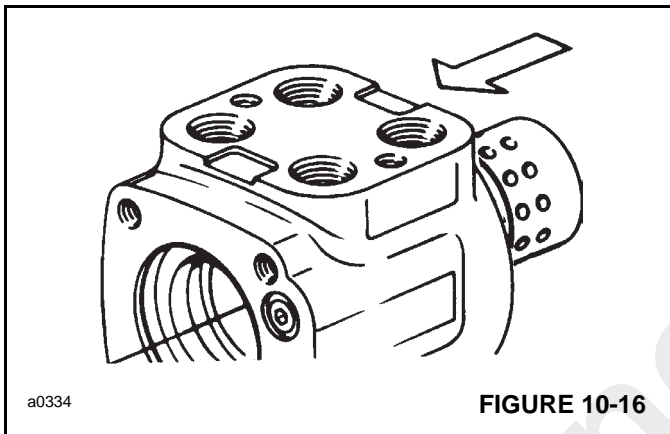

FIGURE 10-16
11. Lubricate the spool and sleeve assembly and position the assembly so that the splined end of the spool enters the meter end of housing (8, Figure 10-8). See Figure 10-16.